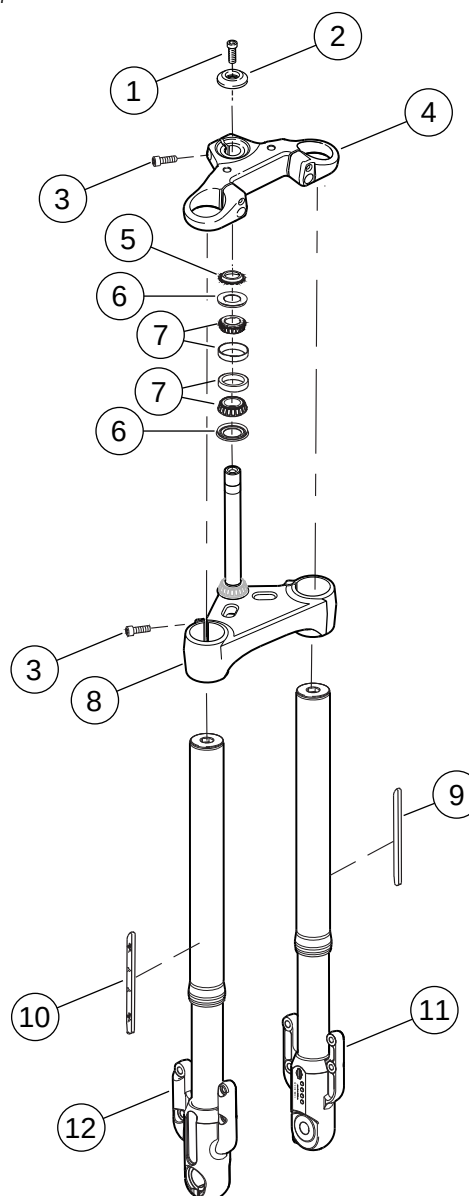

Figure 2-83. Pinch Bolt Locations (VRSCF)
- See Figure 2-83. Remove and discard upper and lower fork bracket pinch bolts.